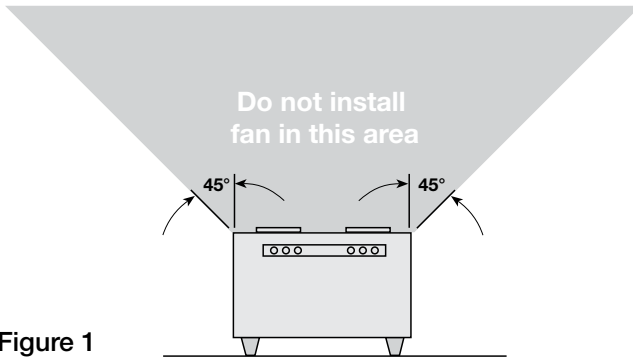

Figure 1
1. For best performance, choose a location with the shortest possible duct run and minimum number of elbows. Do not mount near cooking equipment. As shown in Figure 1.